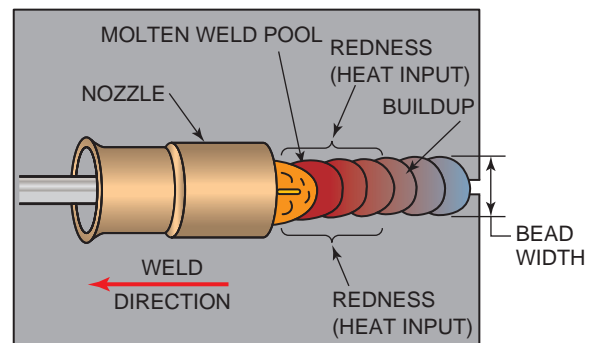

FIGURE 13-18 The backhand welding technique allows a clear view of the weld buildup but may block the view of the weld joint.
- **Joint following**—it is harder to follow the joint because of your hand position; with the FCAW gun positioned over the joint, you may wander from the seam, Figure 13-18.